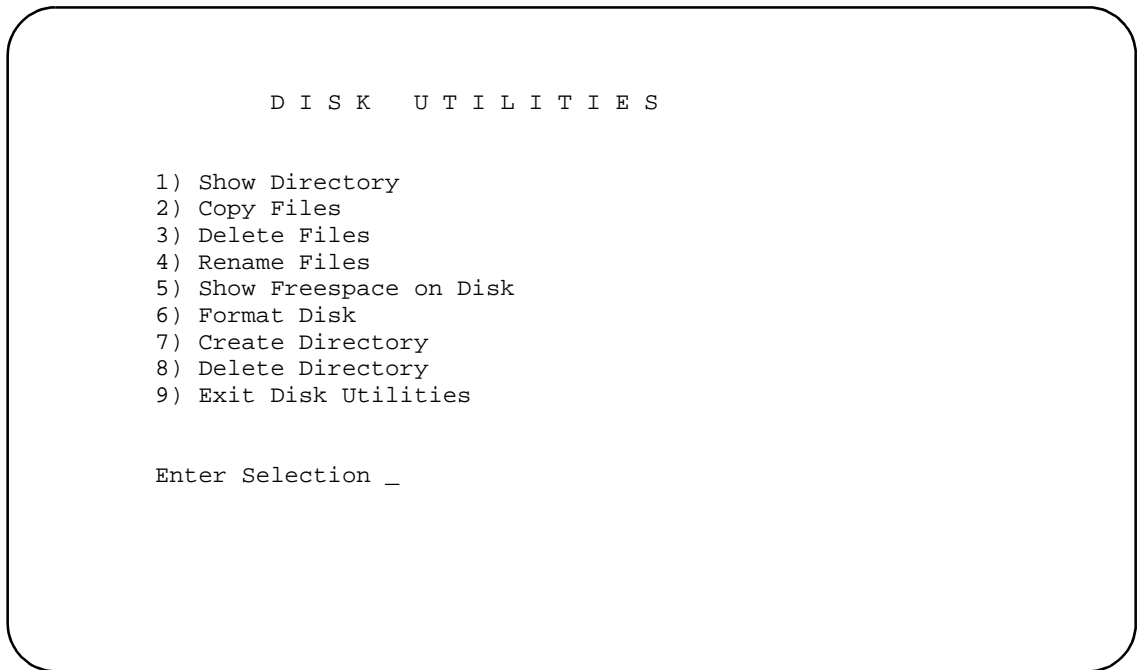

Figure 3.3: Disk Utilities Menu
3. Type **3** and press **Return**. The Disk Utilities menu appears (Figure 3.3)
9. Type **A:** and press **Return**. When all files are copied, the Disk Utilities menu appears (Figure 3.3).
3. Type **3** and press **Return**. The Disk Utilities menu appears (Figure 3.3).
6. Type **C:/DBASE** and press **Return**. When all files are copied, the Disk Utilities menu appears (Figure 3.3).